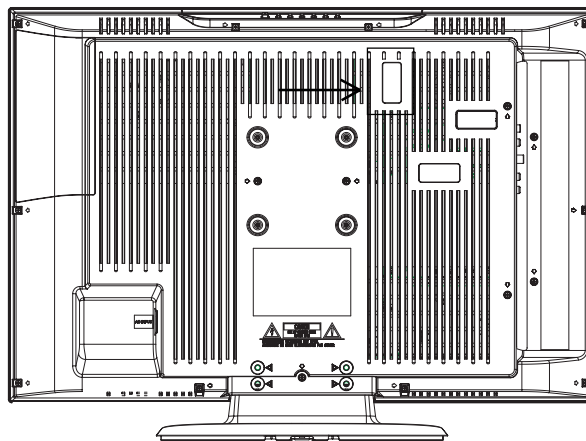

Fig. 1
2. Using the Serial Communication Change JIG (**JG201**), connect the set to personal computer. (**Refer to Fig. 1**)